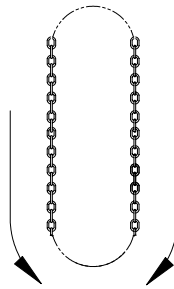

Figure 23 Operating chain to open and close door
2. Operate the door manually by pulling downward on one side of the chain. Pulling the other side will cause door to move in the opposite direction. (See Figure 23).